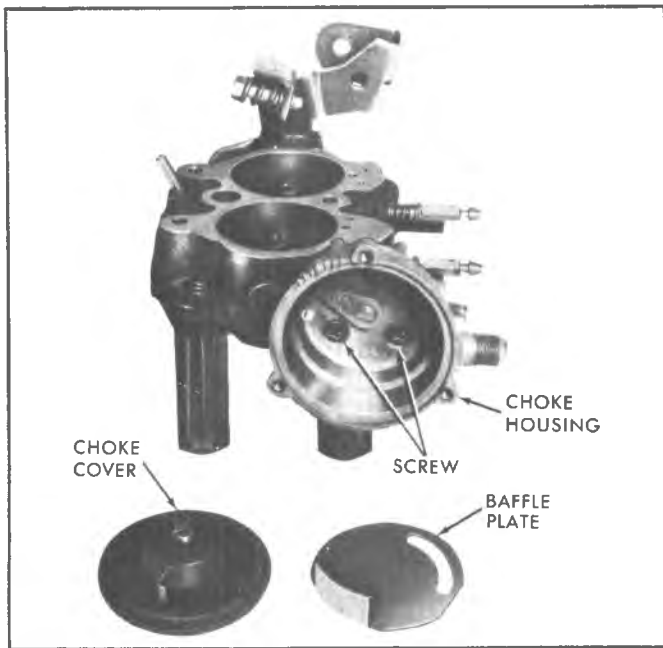

Fig. 8C—Carburetor Choke
2. Remove baffle plate from inside choke housing (Fig. 8C).
7. Position choke housing on throttle body and retain with two attaching screws. Tighten securely (Fig. 8C).